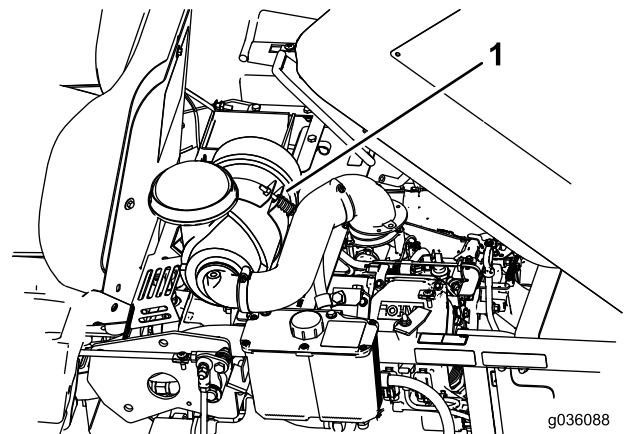

Figure 36
3. For access to the bottom latch, remove the bolt, open the clamp, and raise the air cleaner (Figure 36).
5. Install the air cleaner into the clamp and secure it with the previously removed bolt (Figure 36).